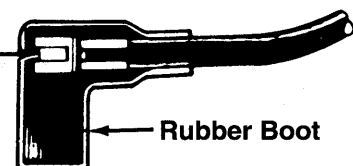

FIGURE 13.
1. Attach spark plug wire to spark plug. Make certain the metal loop on the end of the spark plug wire (inside the rubber boot) is fastened securely over the metal tip on the spark plug. See figure 13.